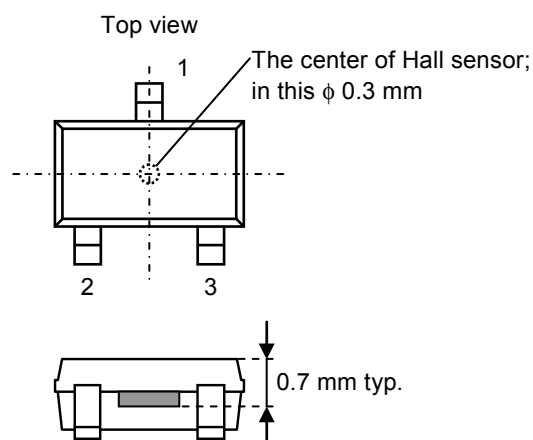
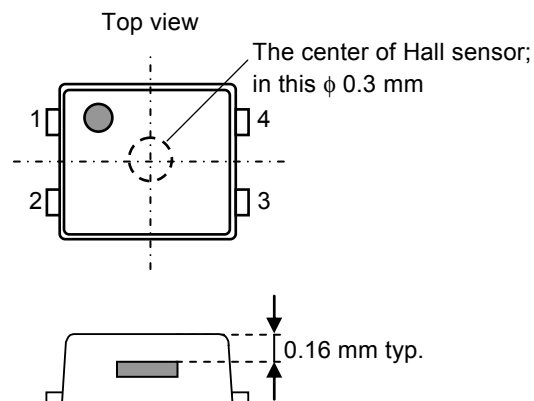

Figure 13
Figure 14
**Figure 13** and **Figure 14** show the position of Hall sensor.